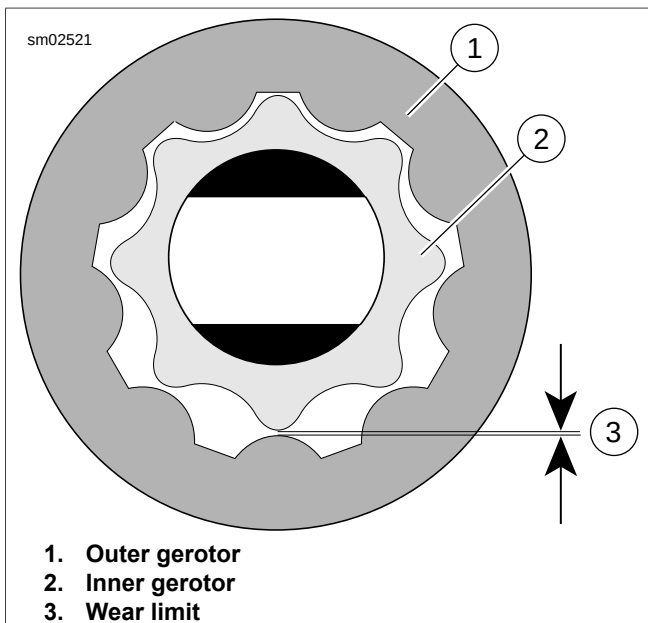

Figure 3-120. Measure Gerotor Sets for Wear
6. See Figure 3-120. Check gerotor wear.